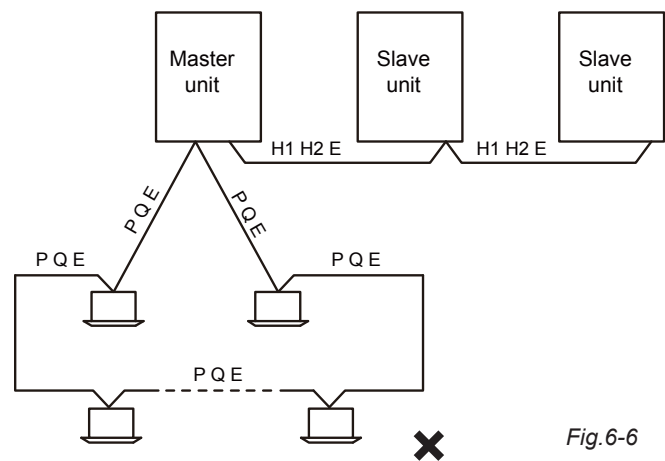

Fig.6-6
- The P Q E communication wires should be connected one unit after another in a daisy chain from the outdoor unit to the final indoor unit as shown in Figure 6-6. At the final indoor unit, a 120 Ω resistor should be connected between the P and Q terminals. After the final indoor unit, the communication wiring should NOT be continued back to the outdoor unit – that is, do not attempt to form a closed loop.
- The H1 H2 E communication wires should be connected one unit after another in a daisy chain from the master outdoor unit to the final slave outdoor unit as shown in Figure 6-6.